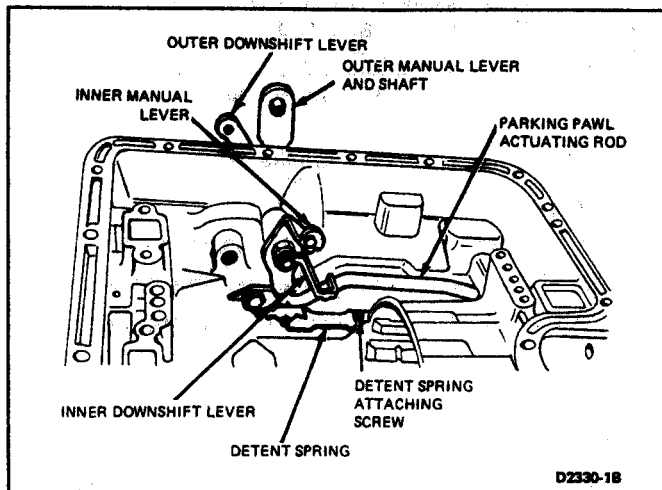

FIG. 30 Downshift and Manual Linkage
2. Slide the inner downshift lever assembly out from the inside of the case (Fig. 30). Remove the seal from the recess in the manual lever shaft.